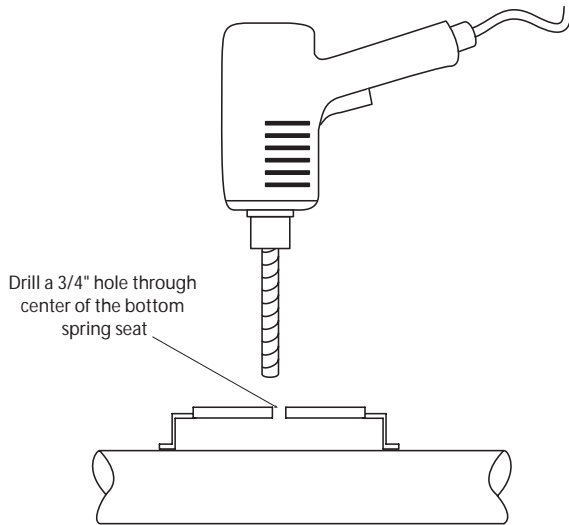

Figure 1
4. Remove the coil springs. Drill a 3/4" hole in the bottom spring seat for hose and valve stem clearance. (Figure 1).